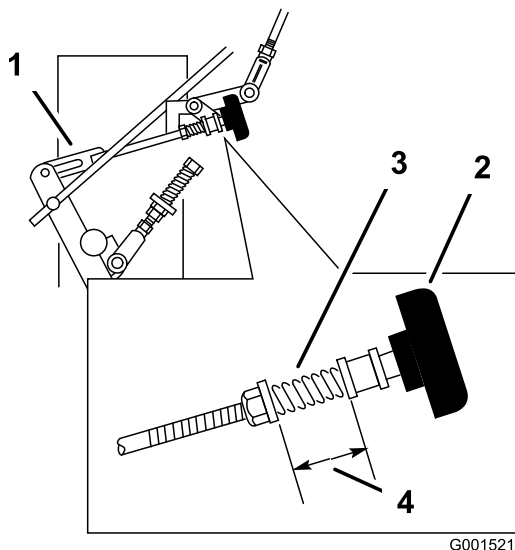

Figure 41
3. Adjust the right side linkage by turning the quick track knob counterclockwise until the tire begins to rotate forward (Figure 41).
- Turn the knob clockwise 1/4 of a turn at a time. Then move the speed control forward and back to neutral. Repeat this until right wheel stops rotating forward (Figure 41).
- The spring that keeps tension on the knob should normally not need adjustment. However if an adjustment is needed, adjust the length of spring to 1 inch (26 mm) between the washers (Figure 41).
- Adjust spring length by turning nut at front of spring (Figure 41).